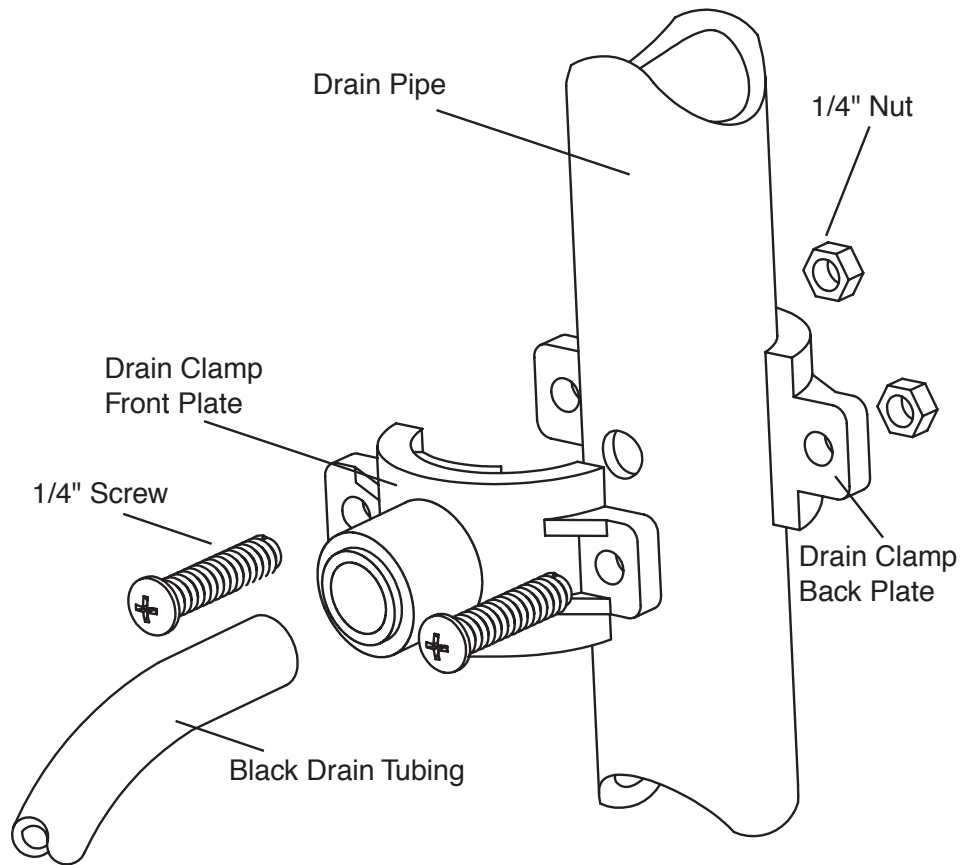

Figure 4
- Refer to Fig. 4, above. Insert the tubing into the Drain Clamp. Make sure the tubing is pressed all the way.